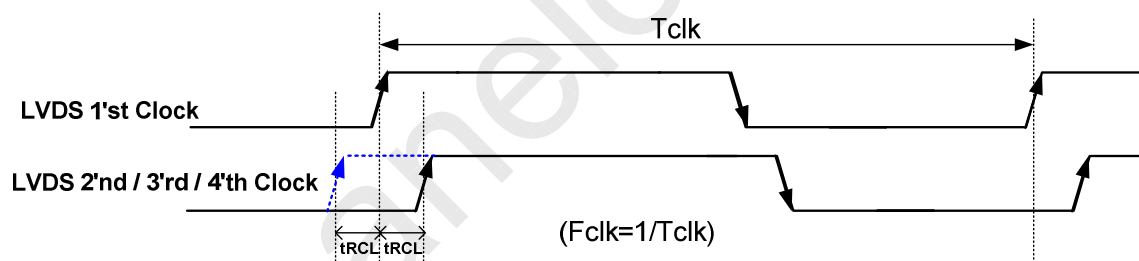

Figure 4: LVDS Clock to Clock Skew Margin
8. Measurement of **LVDS Clock to Clock Skew Margin** is shown in Figure 4.